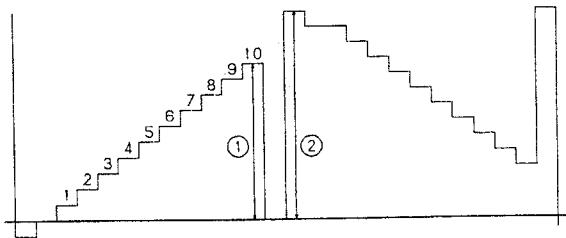

Fig.1
Adjust the TP613 with VR605 so that the black-black level in Fig.1-② on synchroscope screen becomes  $4.0 \pm 0.05Vp-p$ .
Adjust the TP613 with VR609 so that the CONT-G level in Fig.1-① on synchroscope screen becomes  $3.8 \pm 0.05Vp-p$ .
Adjust the TP612 with VR607 so that the CONT-R level in Fig.1-① on synchroscope screen becomes  $3.8 \pm 0.05Vp-p$ .
Adjust the TP614 with VR606 so that the CONT-B level in Fig.1-① on synchroscope screen becomes  $3.8 \pm 0.05Vp-p$ .